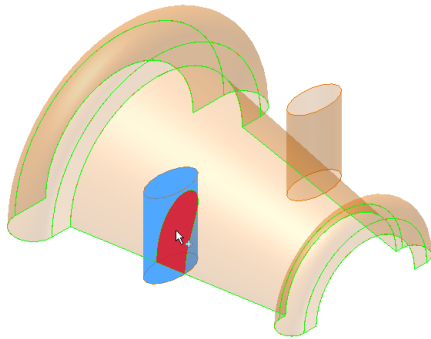

Figure 18-56 *Trimming the base surface*
- d. Split surfaces using the **Face Split** option, refer to Figure 18-56.
2. Select the portion common between the base surface and the extruded surface as the portion to be trimmed, as shown in Figure 18-56. Choose **OK** from the dialog box.